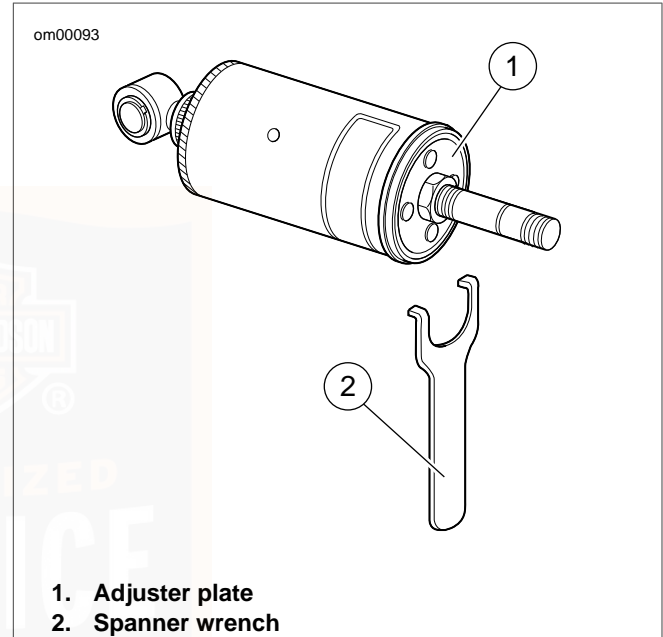

Figure 33. Rear Shock Absorber Adjustment: Softail Models
2. See Figure 33. Use a spanner wrench to turn the spring adjuster plate to the desired position.